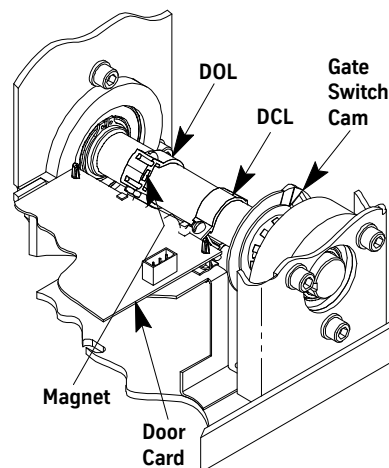

Figure 10 - Door Operator Cams
3. Manually move the door to the Fully Closed Position, noting which direction the cam shaft rotates. See Figure 10.